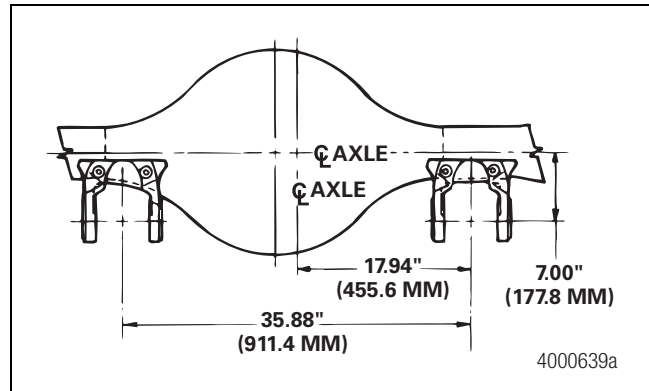

Figure 3.20
1. Position the bracket to the housing as shown. Figure 3.20.